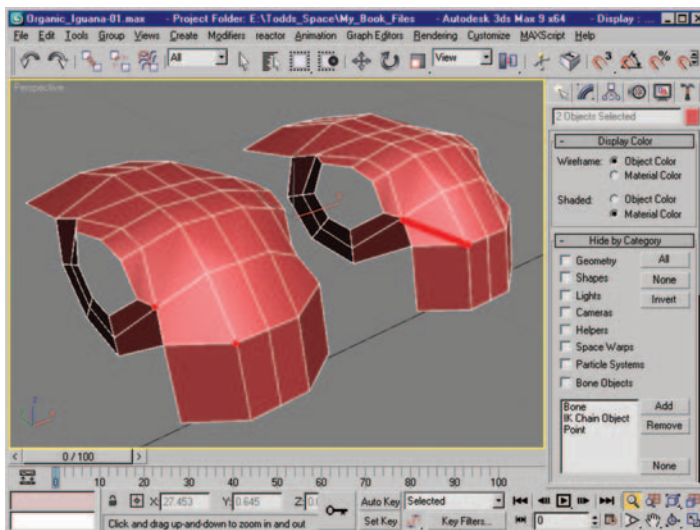

Figure 9.13 Vertex selection and resulting new edge (Connect).
13. Select the vertices seen in Figure 9.13 and use Connect to create a new edge between them.